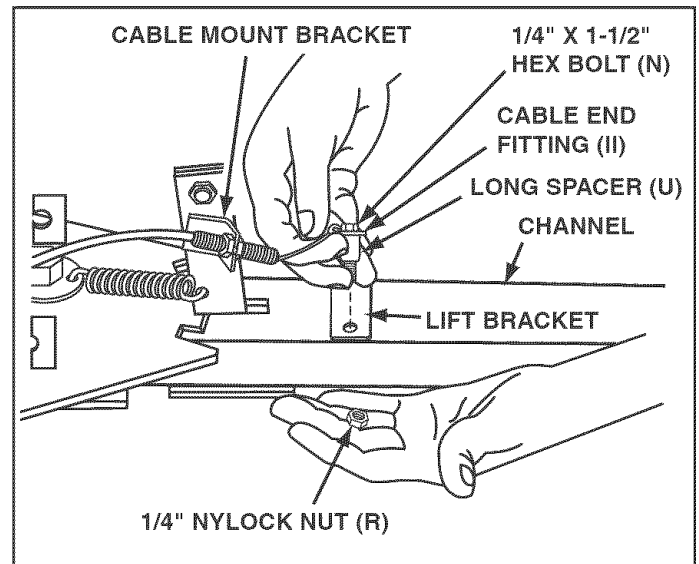

FIGURE 14
- Assemble a 3/8" x 1-1/4" carriage bolt (E) through the cable mount bracket (GG) and then mount it from the left side to the square holes in the angle lock bars. Secure the bracket at the angle shown in figure 14 with a 3/8" nylock nut (Q).
### STEP 13: (SEE FIGURE 14)